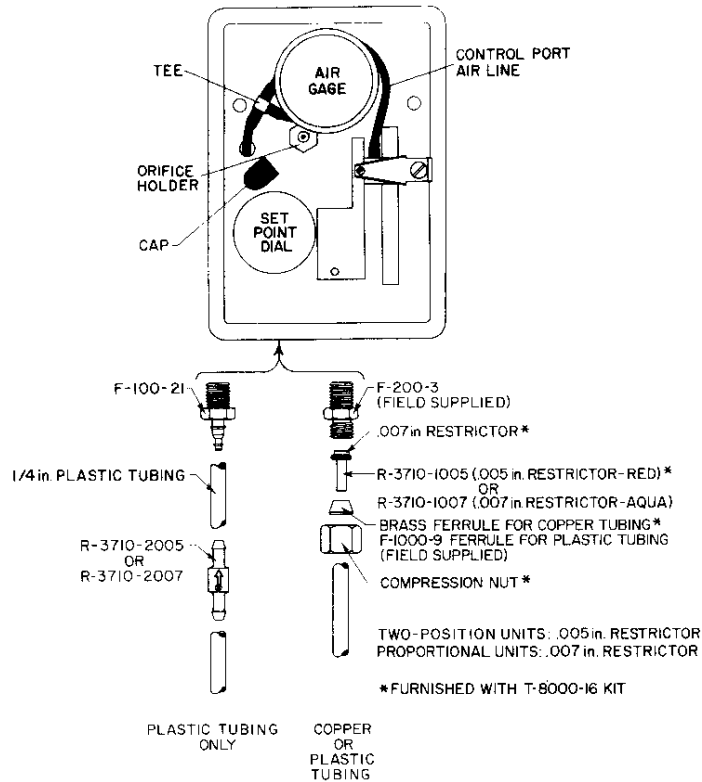

Fig. 4: Front of Instrument
7. Install the appropriate in-line restrictor and fitting to match the type of tubing selected for the particular application. (See Fig. 4).